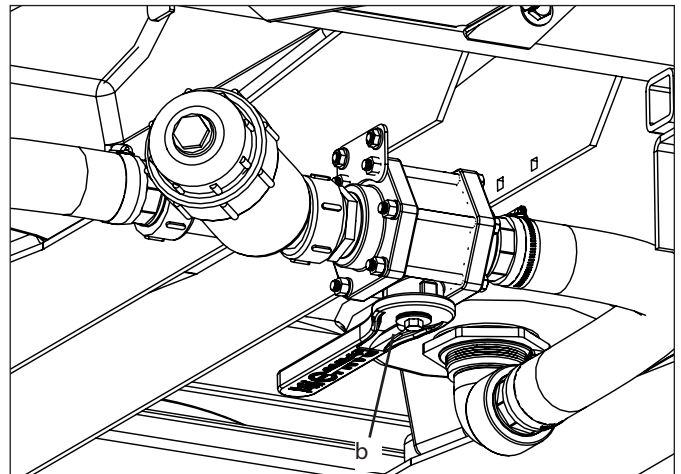

Figure 2: Tank Valve
3. Open the tank valve (b) (Figure 2) underneath the unit tank.
3. The tank suction valve (b) must be opened (Figure 2, page 10).